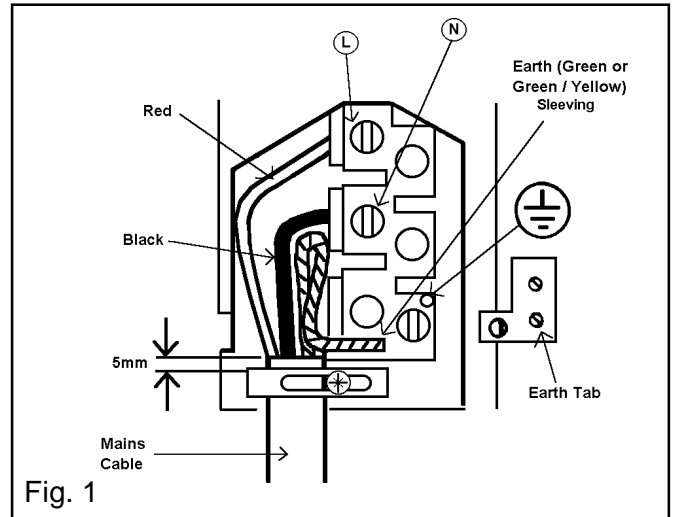

Fig. 1
- **Do not** remove the screws from the earth tab extending from the oven mains terminal block (Fig. 1).